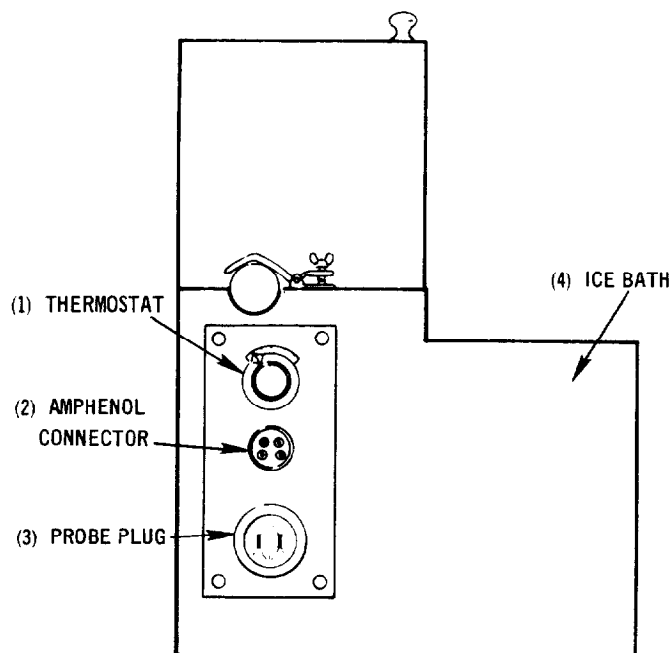

Figure 10. Sample box.
Fill the ice bath (4) with water and check for leaks (Figure 10).